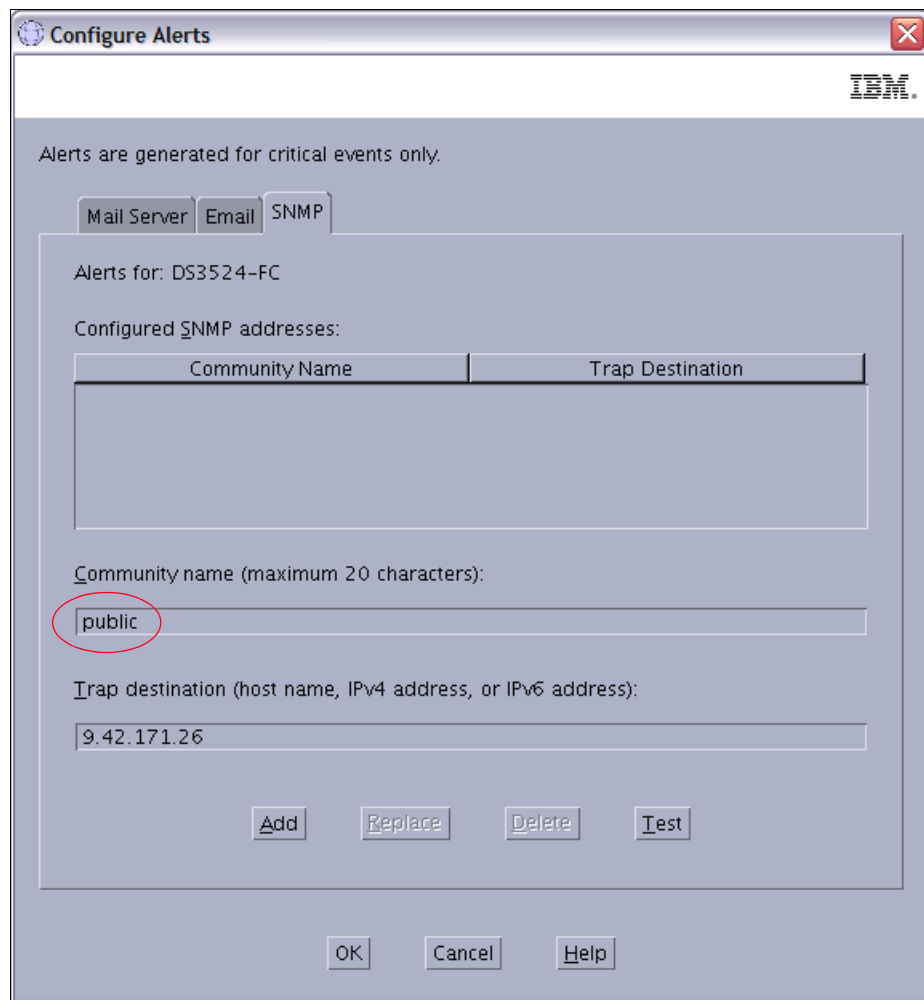

Figure 16-28 RSM Add SNMP trap receiver
4. Type the host name or the IP address of the RSM host in the trap destination field and click **Add** (Figure 16-28). Do not change the SNMP community name (the default is *public*).